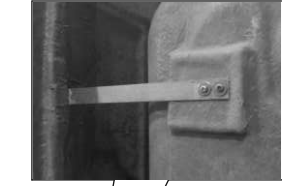

Fig 1
Step 1. Put the tub on the mat, tub mounted upside down, then install iron support ②, see fig 1.